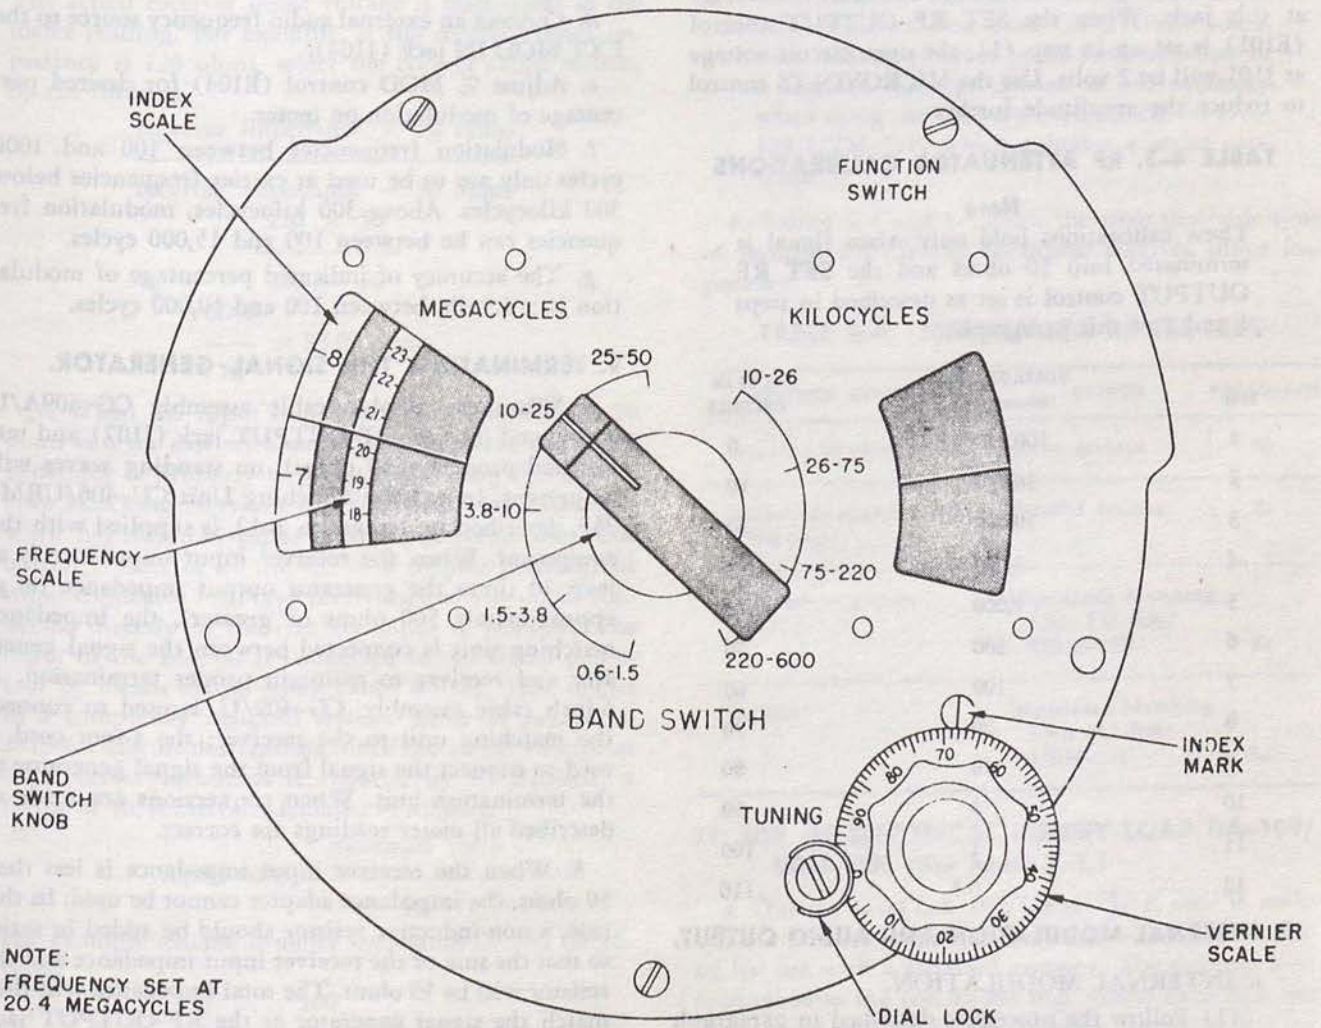

Figure 4-2. Frequency, Index Vernier Scales
a. Follow steps (1) through (6) of paragraph 5b until zero beat is heard at a crystal check point just below the desired frequency.	a. If the frequency desired is 20.4 megacycles, tune to 20-megacycle crystal check point.
g. Add number obtained in step f. to numerical setting for lower check point as obtained in step b.	g. Numerical setting for lower check point was 756; desired frequency is 12 dial divisions above this, or $756 + 12 = 768$. See figure 4-2.
(5) Adjust SET RF OUTPUT control (E101) until meter reads in the red arc of the scale (full scale deflection).
(6) If frequency desired coincides with one of the crystal check points (spaced at 1-megacycle intervals from 1 to 50 megacycles), adjust TUNING knob slightly until zero beat is heard in the headphones. The signal generator is now tuned properly at a crystal check point. If the desired frequency falls *between* crystal check points, follow the procedure given in Table 4-2.